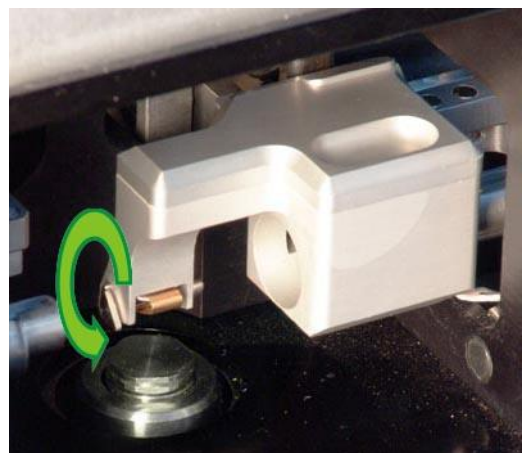

Fig. 6-21
7. Turn the measuring head to its working position manually (see Fig. 6-21).